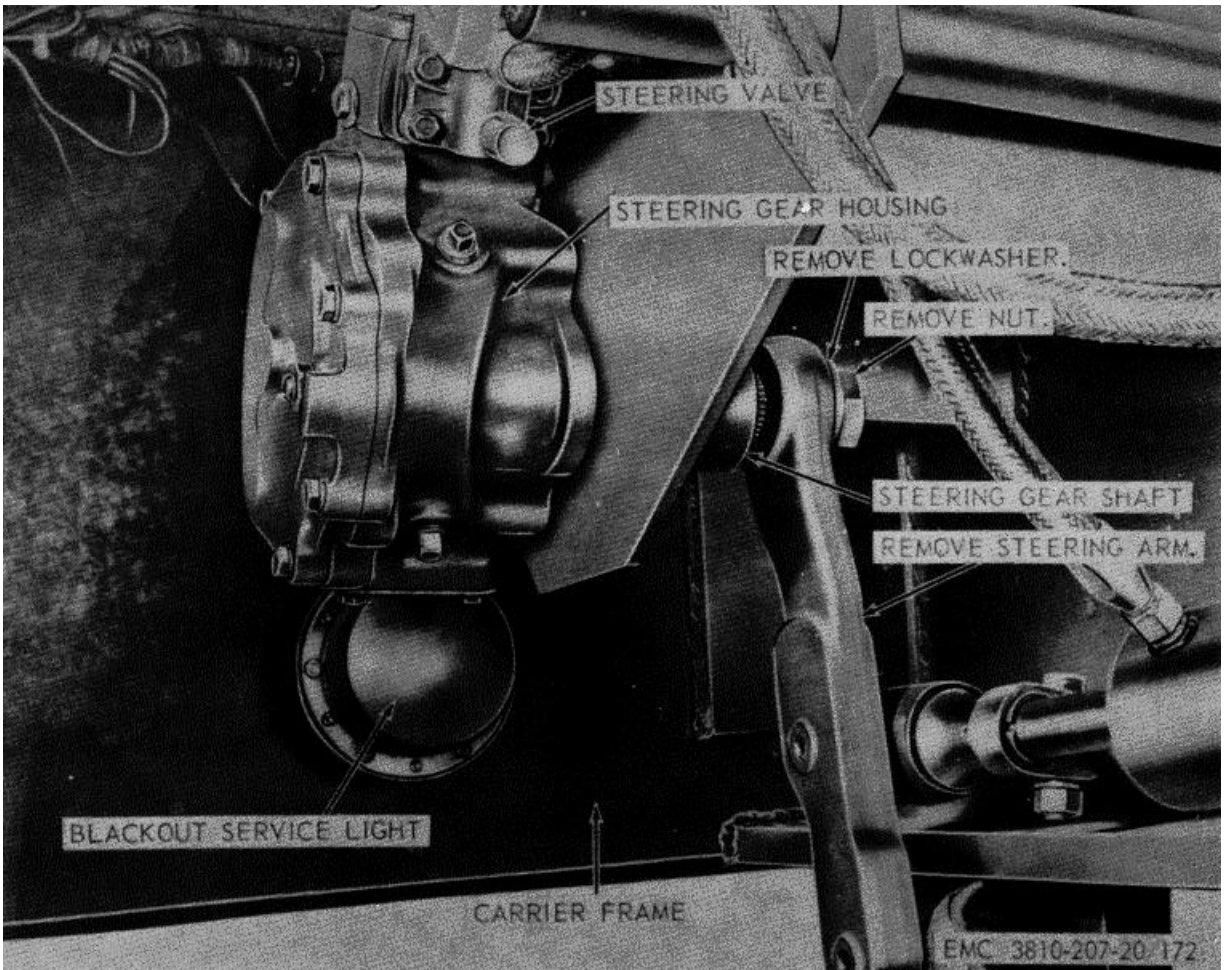

Figure 172. Steering arm, removal and installation.
- (1) Remove the hydraulic cylinder (par. 276).
- (2) Remove the drag link (par. 279).
- (3) Remove the steering arm as instructed on figure 172.
- (1) Install the steering arm as illustrated on figure 172.
- (2) Install the drag link (par. 279).
- (3) Install the hydraulic cylinder (par. 276).